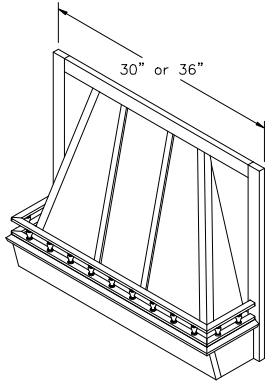

Figure 1
1. An unattached optional Galley Rail assembly may be enclosed with the decorative hood front. The Galley Rail should be attached as shown in Figure 1. NOTE: All screw holes should be pre-drilled. Exercise caution if nailing to avoid damage.